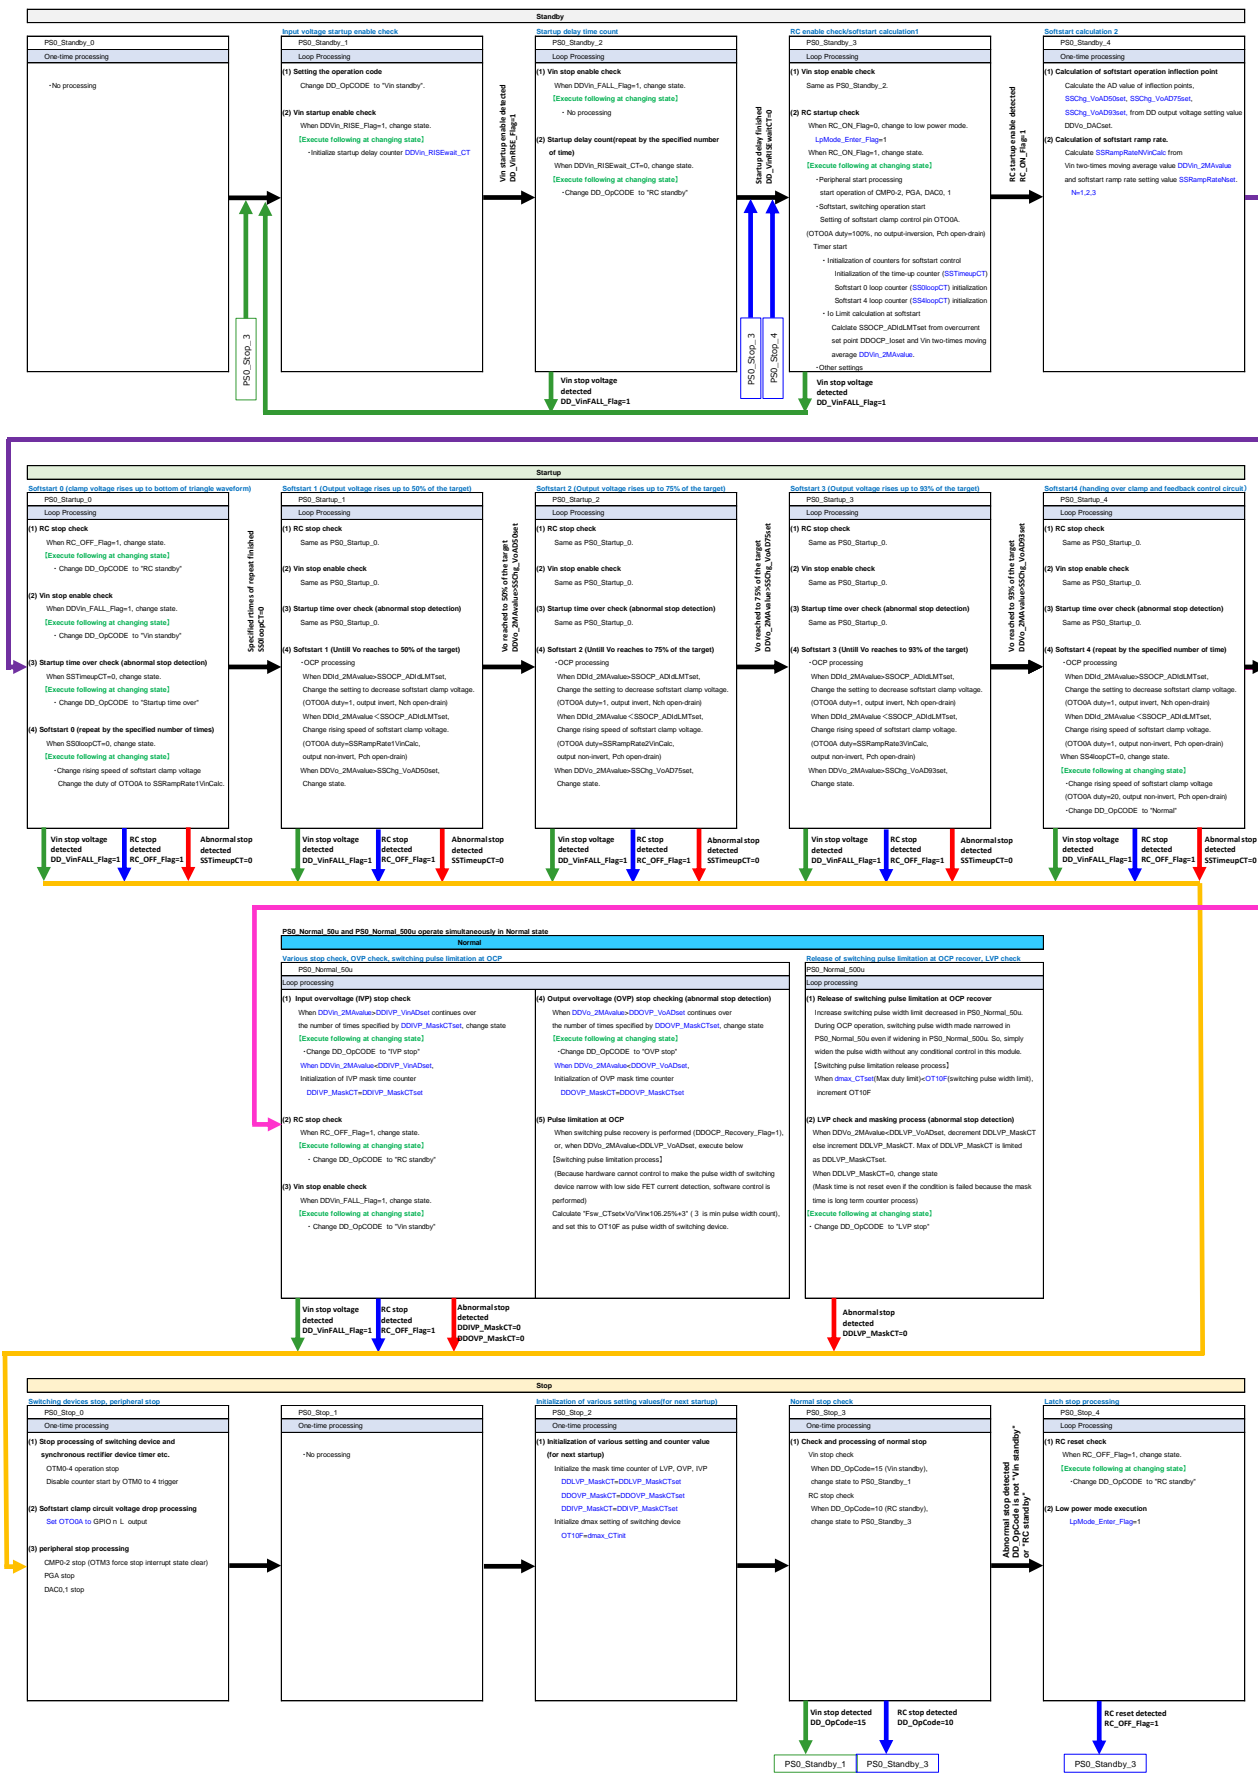

Figure 6-2. LogiCoA001-EVK-001 state transition diagram
Figure 6-2 shows the state transition diagram of LogiCoA001-EVK-001. As described in the section 6.1 "state transition control", the operation state is divided into ① standby, ② start, ③ normal, and ④ stop. The top stage of Figure 6-2 is the ① standby, the second stage from the top is the ② start, the third stage is the ③ steady, and the bottom stage is the ④ stop. As shown in table 6-1, the standby, startup, and stop states have five state transition control modules, and the normal state has two modules, and one of the modules is executed in a cycle of 50 μ s. However, only for normal state operation, a module that is executed in a 50 μ s cycle and a module that is executed in a 500 μ s cycle operate in parallel. Each module judges and controls the transition to the next state or stagnation in the same state according to state variables and state flags such as input voltage, output voltage, and internal counter of the program dynamically acquired as described in the figure. State variables and state flags are listed in Section 6.3 "State Variables and State Flags".